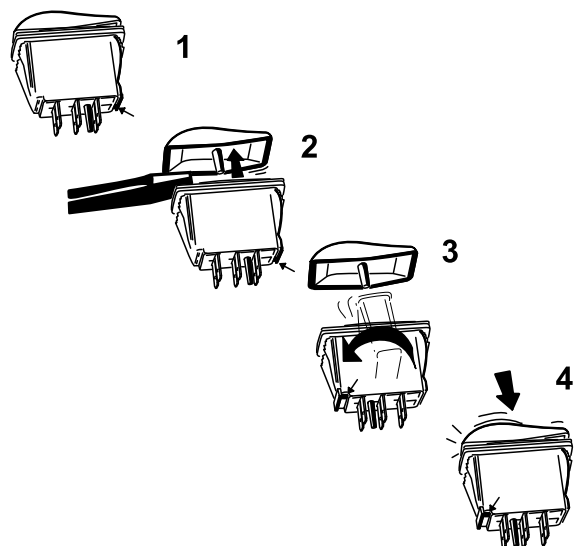

Figure 21
- B. Using a flat head screw driver or similar tool, gently pry the rocker switch covers from the switch bodies (Figure 21).
C. Holding the switch cover in position, flip the switch body 180 degrees so that the connector notch is front left corner (Figure 21).
D. Press the rocker switch covers onto the switch bodies in this new orientation until the cover snaps into place (Figure 21).